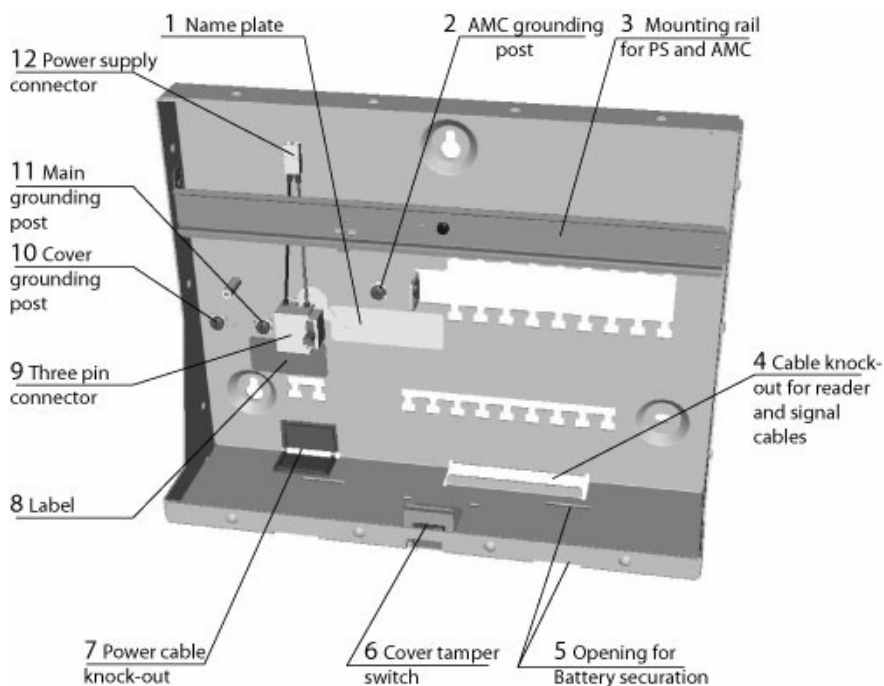

Figure 1 Parts of the housing
1. Mount the AMC on the rail (item **3** in *Figure 1*) and left aside the power supply.